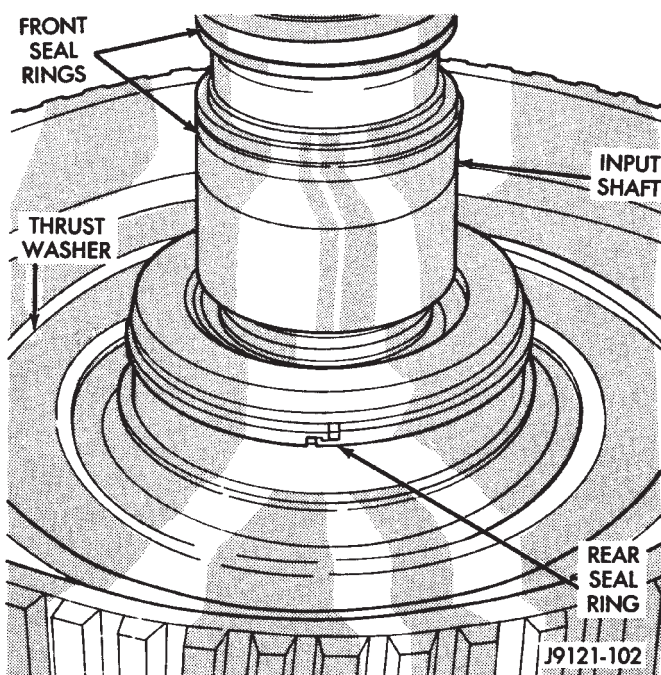

Fig. 143 Input Shaft Seal Ring And Thrust Washer Installation—46RH
(22) Check input shaft front seal rings, fiber thrust washer and rear seal ring (Fig. 143). Be ends of rear seal ring are hooked together and diagonal cut ends of front seal rings are firmly seated against each other as shown. Lubricate seal rings with petroleum jelly after checking them.